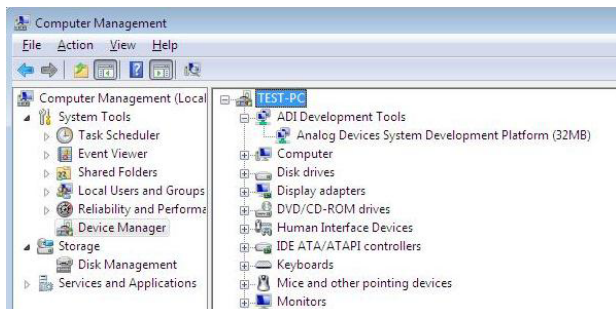

Figure 18. Device Manager:
- iii. The **Computer Management** box appears. Click **Device Manager** from the list of **System Tools** (see Figure 18).